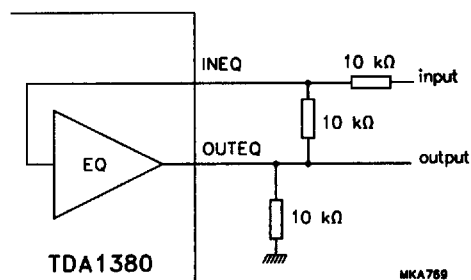

Fig.10 Test circuit of the equalization amplifiers.
- Closed loop configuration, unity gain, in accordance with Fig.10.